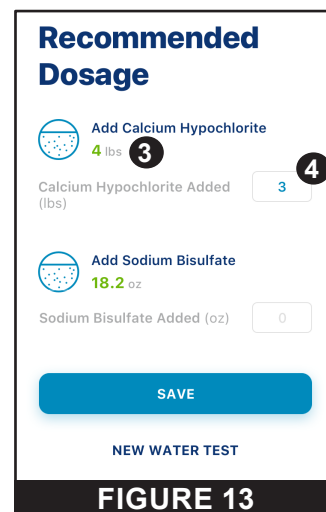

FIGURE 13
10. The Recommended Dosage screen will display (**Figure 13**). Recommended Dosages (3) will be shown for each selected balancing agent.
11. Enter the amount of each balancing agent (4) being added to the pool.